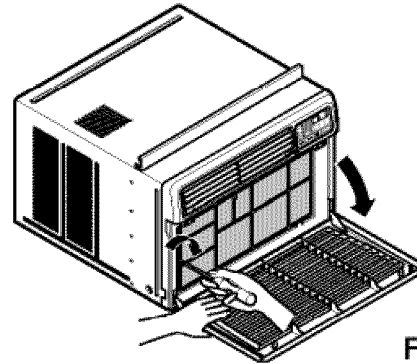

Fig. 10
- 10 Attach the front grille to the cabinet by inserting the tabs on the grille into the tabs on the front of the cabinet. Push the grille in until it snaps into place. (See Fig.10)
- 11 Lift the inlet grille and secure it with a screw (Type A) through the front grille. (See Fig. 10)